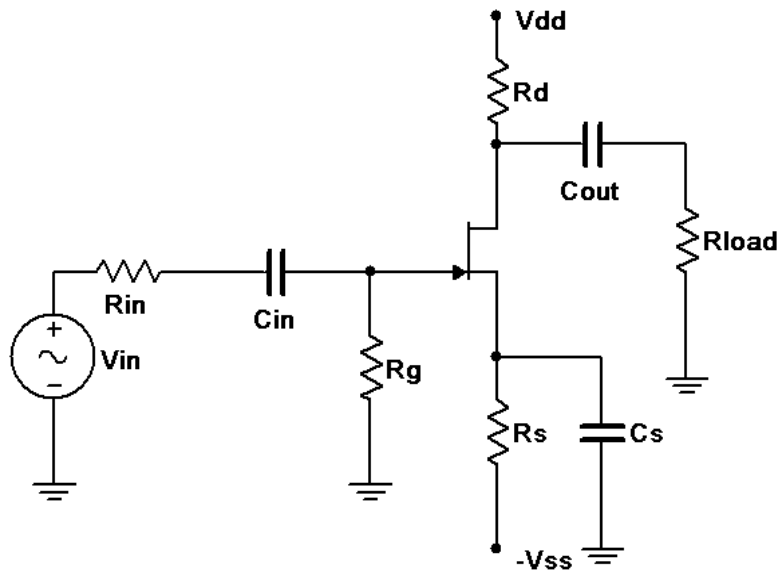

Figure 16.1
1. Consider the circuit of Figure 16.1 using  $V_{dd} = 15$  volts,  $V_{ss} = -3$  volts,  $R_{in} = 33$  k $\Omega$ ,  $R_g = 330$  k $\Omega$ ,  $R_s = 4.7$  k $\Omega$ ,  $R_d = 4.7$  k $\Omega$ ,  $R_{load} = 22$  k $\Omega$ ,  $C_{in} = C_{out} = 10$   $\mu$ F and  $C_s = 470$   $\mu$ F. Assuming  $V_{GS} = -2$  volts and  $g_m = 2$  mS, determine the theoretical gain and input impedance of the circuit and record these in Table 16.1.
2. Build the circuit of Figure 16.1 using  $V_{dd} = 15$  volts,  $V_{ss} = -3$  volts,  $R_{in} = 33$  k $\Omega$ ,  $R_g = 330$  k $\Omega$ ,  $R_s = 4.7$  k $\Omega$ ,  $R_d = 4.7$  k $\Omega$ ,  $R_{load} = 22$  k $\Omega$ ,  $C_{in} = C_{out} = 10$   $\mu$ F and  $C_s = 470$   $\mu$ F. Set  $V_{in}$  to a 100 mV